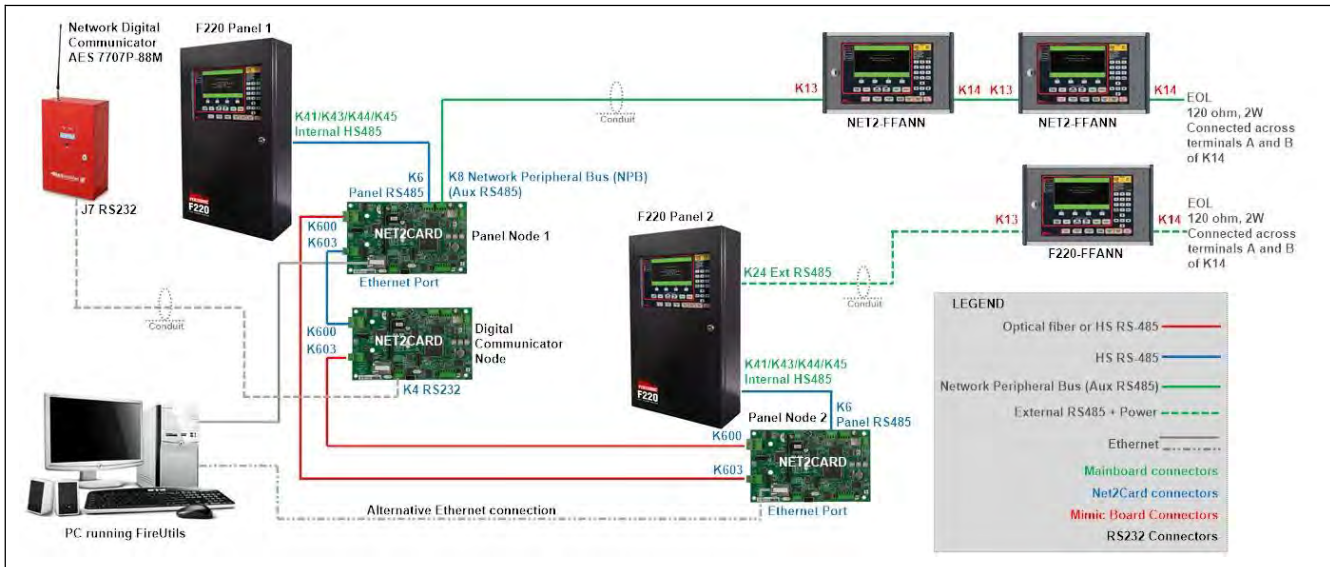

Figure 20-28: A Two Panel, Three Node Network
The example below describes the process of configuring a three node, two panel network which includes three annunciators; two attached to Net2Cards (Net2-FFANNs), and the third, a F220-FFANN, connected to a panel. See Figure 20-28.
- With the Net2Cards mounted in both F220 Panels, connect K6 PANEL_RS485 on the two Panel Node Net2Cards to K44 INTERNAL_RS485 on the respective Panel's Mainboard. See Figure 20-28 and Figure 20-46.
- Connect the A and B terminals on K14 on the F220-FFANN and the second Net2-FFANN to separate 120 ohm, 2W End of Line resistors (EOL-120-UL) as shown in Figure 20-28.